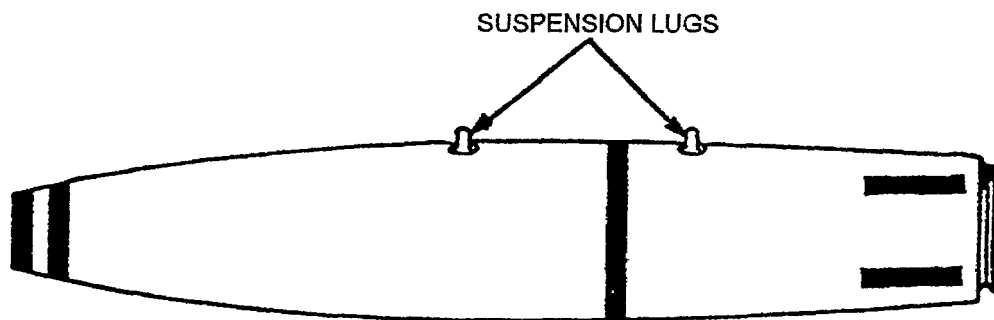

Figure 4-10A. Suspension Lug Installation
- Verify suspension lugs are screwed into lug wells until outer edge of bottom of lug eyes are flush with bomb body. In some cases, lugs may not screw flush; this is acceptable as long as there exists a 3-1/2 thread engagement (Figure 4-10A.)